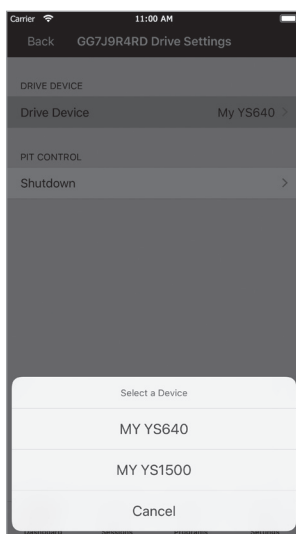
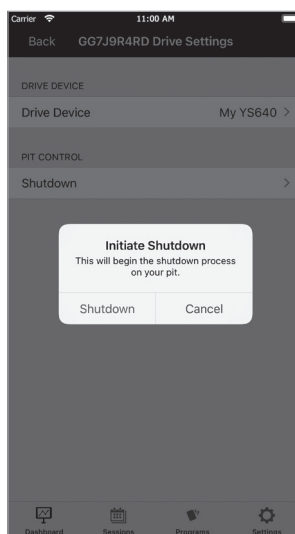

FIG 38
FIG 39
- Tapping the small wrench icon in the upper right of the gray bar will take you to a section that allows you to choose between multiple cookers (if you have more than one paired to your mobile device) (**FIG 38**) and also allows you to shut down your cooker (**FIG 39**).